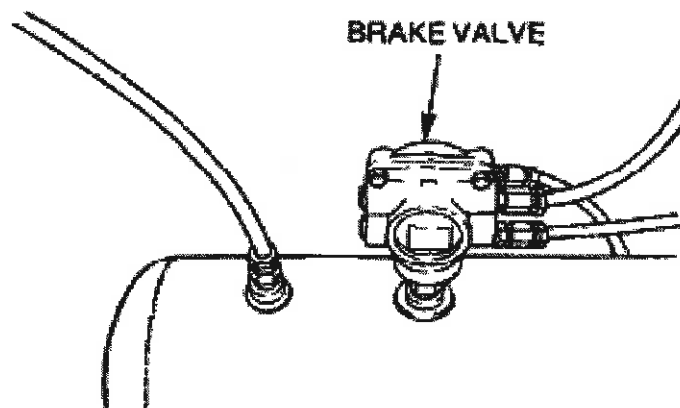

Figure 25 Brake Relay Valve (CA43)
- d. Remove the valve from the rear air reservoir (Figure 25).